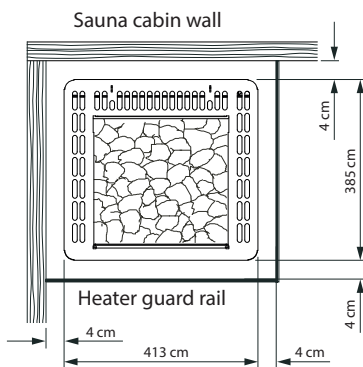

Fig. 2
- Make sure to maintain at least 4 cm horizontal gaps between the heater and sauna cabin wall (see Fig. 2).
- The minimum safety gap to the heater guard rail, sauna benches or other flammable materials must be at least 4 cm (see Fig. 2).